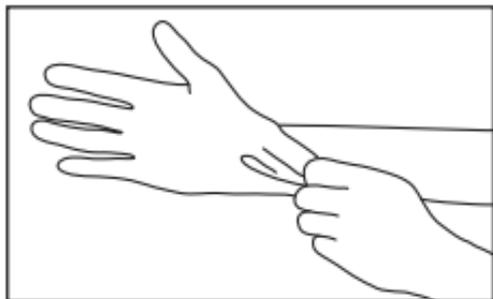

Fig. 9
- 1 Always wear protective gloves, a mask, and protective goggles for safety purposes and to minimize the risk of infection (Fig. 9).